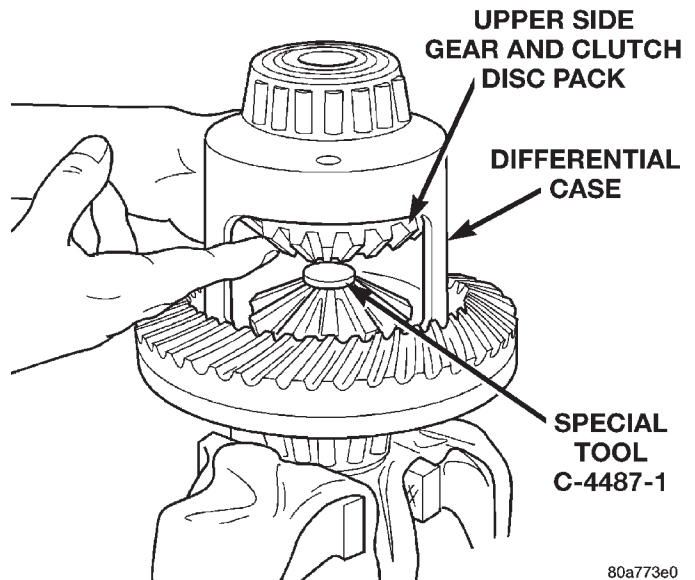

Fig. 47 Upper Side Gear & Clutch Disc Pack Installation
(4) Position the differential case on Side Gear Holding Tool 6963-A.
(5) Install lubricated Step Plate C-4487-1 on side gear (Fig. 47).
(6) Install the upper side gear and clutch disc pack (Fig. 47).
(7) Hold assembly in position. Insert Threaded Adapter C-4487-3 into top side gear.
(8) Insert Forcing Screw C-4487-2.
(9) Tighten forcing screw tool to slightly compress clutch discs.
(10) Place pinion gears in position in side gears and verify that the pinion mate shaft hole is aligned.
(11) Rotate case with Turning Bar C-4487-4 until the pinion mate shaft holes in pinion gears align with holes in case. It may be necessary to slightly tighten the forcing screw in order to install the pinion gears.
(12) Tighten forcing screw to 122 N·m (90 ft. lbs.) to compress the Belleville springs.
(13) Lubricate and install thrust washers behind pinion gears and align washers with a small screw driver. Insert mate shaft into each pinion gear to verify alignment.
(14) Remove forcing screw, threaded adapter, and step plate.
(15) Install pinion gear mate shaft and align holes in shaft and case.
(16) Install the pinion mate shaft roll pin. Peen the edge of roll pin hole in the differential case in two places, 180° apart.